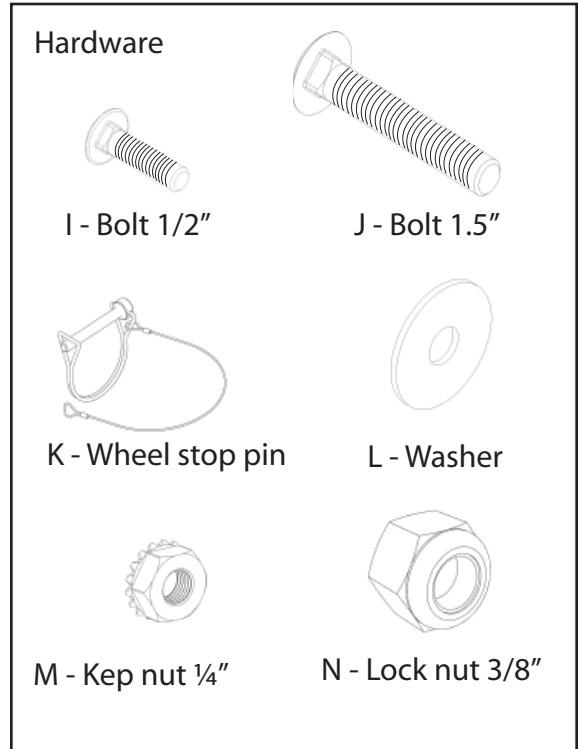

Figure 1
Using a flat tray assembly from step 5, attach to front L-channel (part D) through round hole located second from the end on the bike tray. Mount lanyard of the wheel stop pin (part K) between L-channel and horizontal wheel tray. Attach vertical tray through top mounting holes to rear U-channel (part C) using 1.5" bolts and nuts. See Figure 1
- Double check location and assembly of all parts, reference Figure 1. Then tighten down all nuts snugly with ratchet. Move rack into final location.